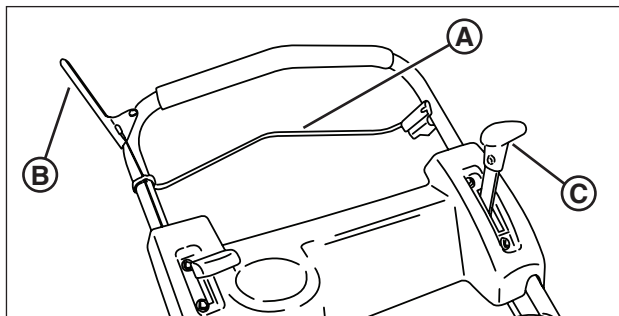

Figure 1: Mower controls
2. Check the blade control (**A**, **Figure 1**), drive control (**B**), and ground speed control (**C**) to insure they work freely.